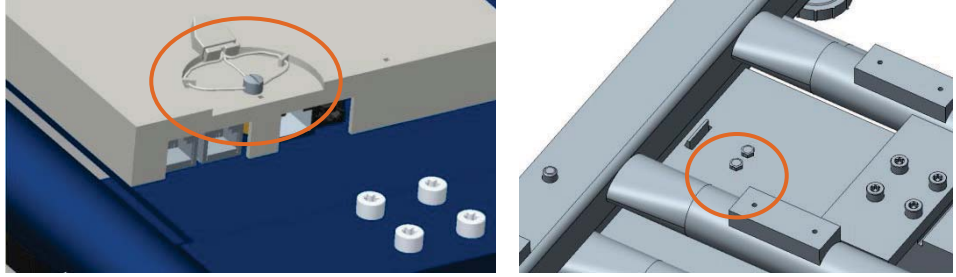

Figure 4-58: BC-15 Sealing
1. Loop the wire through the holding screw for the PCB cover on the bottom of the scale (left, in Figure 4-58).
2. Loop the wire through the two drilled-head screws over the calibration switch (right, in Figure 4-58).